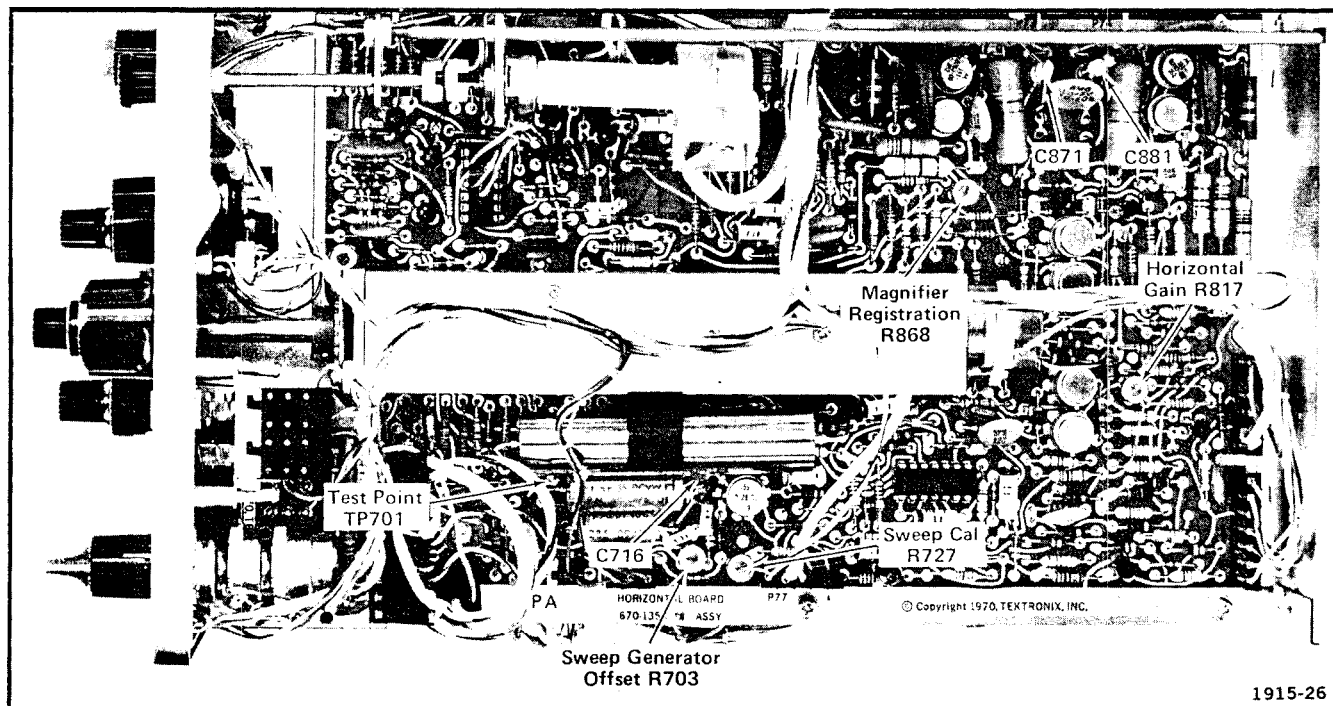

Fig. 5-9. Location of horizontal system adjustments and test points.
f. ADJUST—Sweep Generator Offset adjustment R703 (see Fig. 5-9) to center the test oscilloscope display around the 0 V DC reference level.
b. Connect the tip of the 1X probe to TP701 (see Fig. 5-9).
f. ADJUST—Sweep Cal adjustment R727 (see Fig. 5-9) for a sweep duration of 11 milliseconds.
c. ADJUST—Horizontal Gain adjustment R817 (see Fig. 5-9) for one 1-millisecond time mark per division.
f. ADJUST—Magnifier Registration adjustment R868 (see Fig. 5-9) to align the middle time mark with the center vertical graticule line.
d. ADJUST—C716 (see Fig. 5-9) for two time marks per division.
h. ADJUST—C871 and C881 (see Fig. 5-9) for best timing and linearity, excluding the first and last 2 divisions of the magnified sweep.
k. ADJUST—C871 and C881 (see Fig. 5-9) as necessary for the best compromise of timing and linearity between 1  $\mu$ s with 50X magnification (as in step 6 part i) and .2  $\mu$ s with 10X magnification (as in part 6 part e).